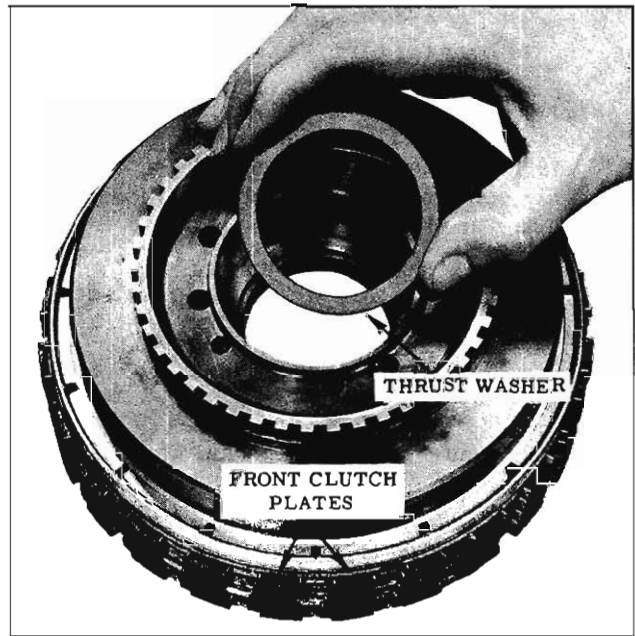

Fig. 6-79 Installing Thrust Washer
11. Install bronze thrust washer into recessed I.D. of front clutch housing bore using petroleum to retain. (Fig. 6-79)